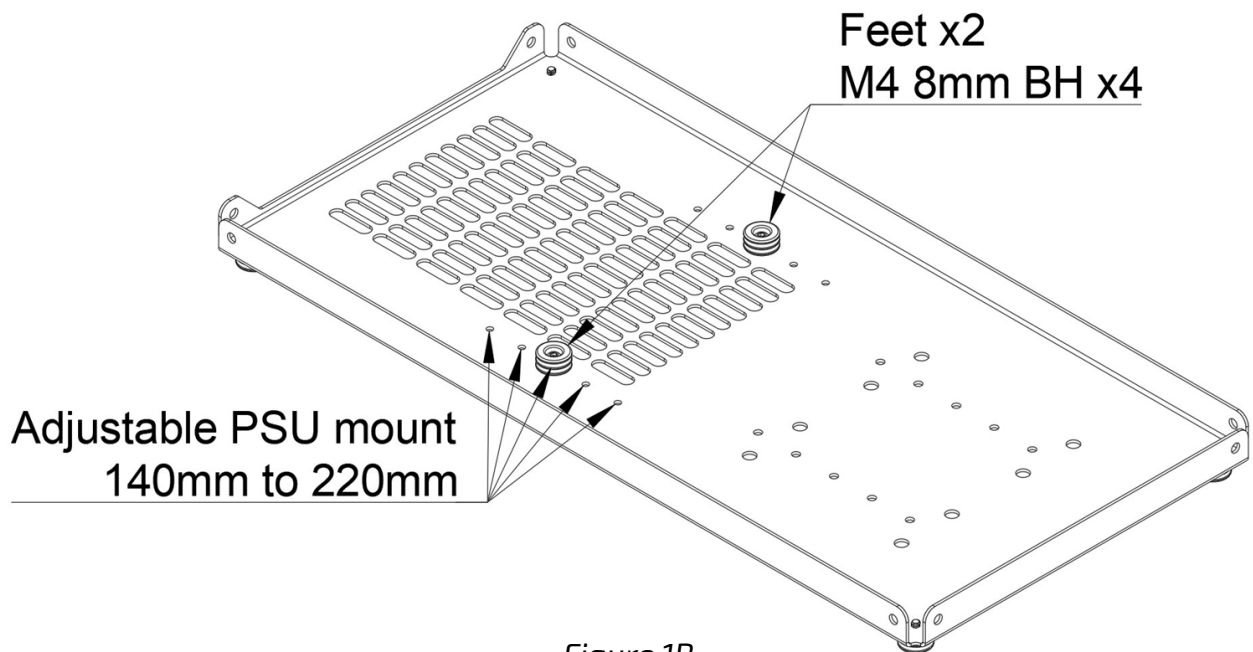

Figure 1B
- Step 2: Install 2 more feet using M4 8mm BH x2 to the top side of the bottom panel according to Figure 1B that will act as support for the power supply, the position of these depends on the length of the power supply.